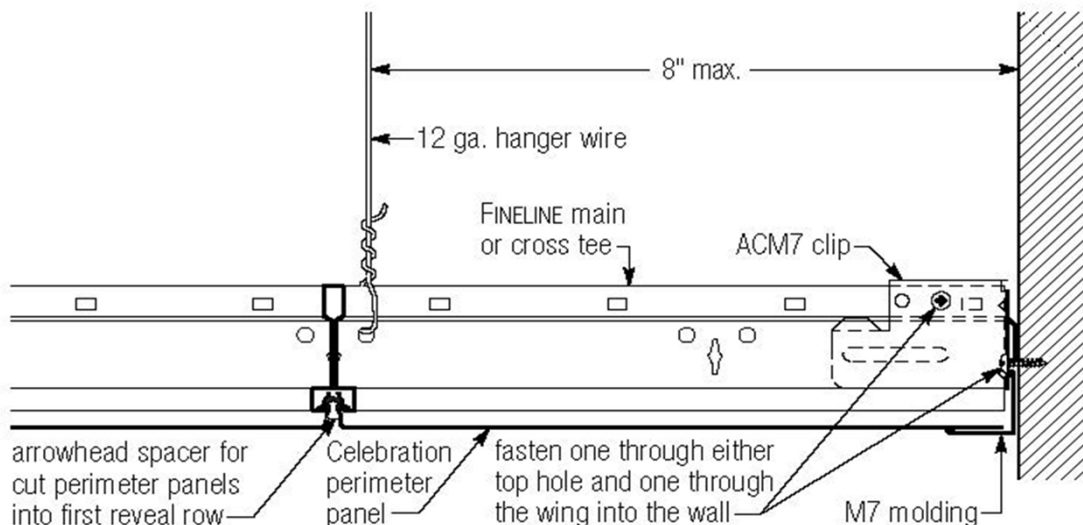
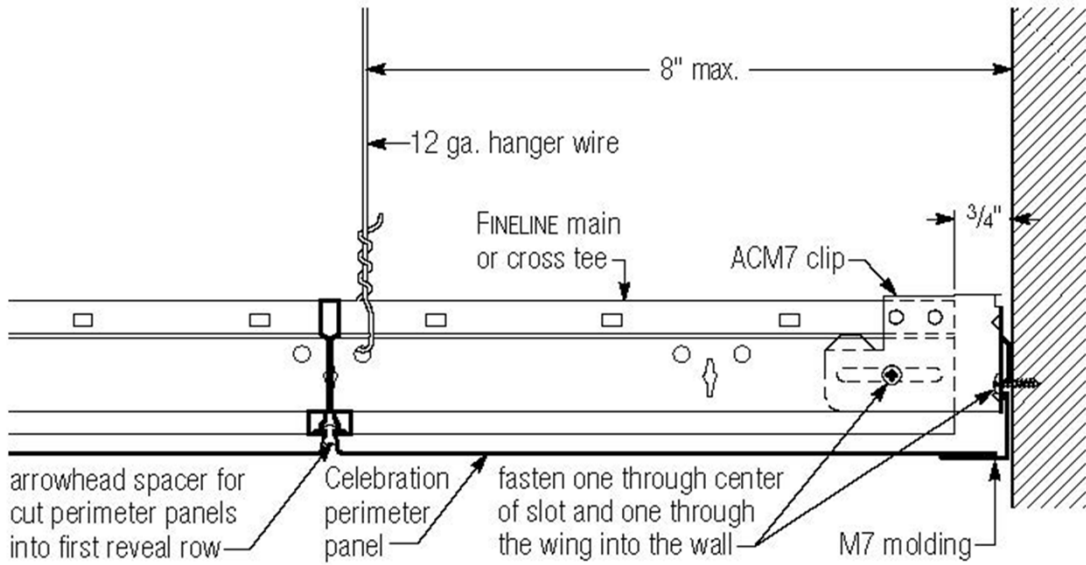

Figure 9 - Use of the ACM7 Seismic Clip Alternative in the Fixed Perimeter Condition
Figure 10 - Use of the ACM7 Seismic Clip Alternative in the Floating Perimeter Condition
- Installations alternative to ASTM E580 have been approved to meet the requirements for a seismic resistive suspension ceiling when tested to ICC-ES AC156. See Figure 9 and Figure 10 for approved seismic installation alternatives.
1. ASTM Class is valid when the ceiling grid is installed in accordance with ASTM C636 and/or ASTM E580. Alternative installation options shown in Figure 9 and Figure 10 have been qualified through shake table testing in accordance with ICC-ES AC156.
USG Celebration Snap-In Metal Ceiling Panel Systems have been tested by means of a shake table, in accordance with AC156, to allow alternative installations using the USG ACM7 Seismic Clip; see Figures 9 and 10. The alternative installation for Seismic Design Category D, E and F, utilizes a 7/8" M7 Wall Angle in conjunction with the ACM7 Seismic Clip, as an alternative to the standard 2" wall angle specified in ASTM E580. In the seismic test for Seismic Design Category D, E and F, the total load of the ceiling system was 4.8 psf. The alternative installation for Seismic Design Category C utilizes a 7/8" M7 Wall Angle in conjunction with the ACM7 Seismic Clip, as an alternative to the wall angle and stabilizer bars.